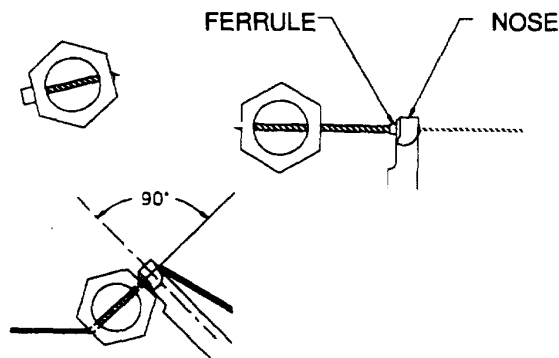

Figure 2-88. Correct Application of Safety Cable
d. *Elongated Ferrules.* Ferrules of extra length, having a radius at one end and a straight surface at the other end, may be used in applications which restrict the clearance for the installation tool nose to be placed in correct alignment with the fastener (such as low profile fastener heads, recess locations, or obstructions by structures or installed components). See figures 2-88 and 2-89.